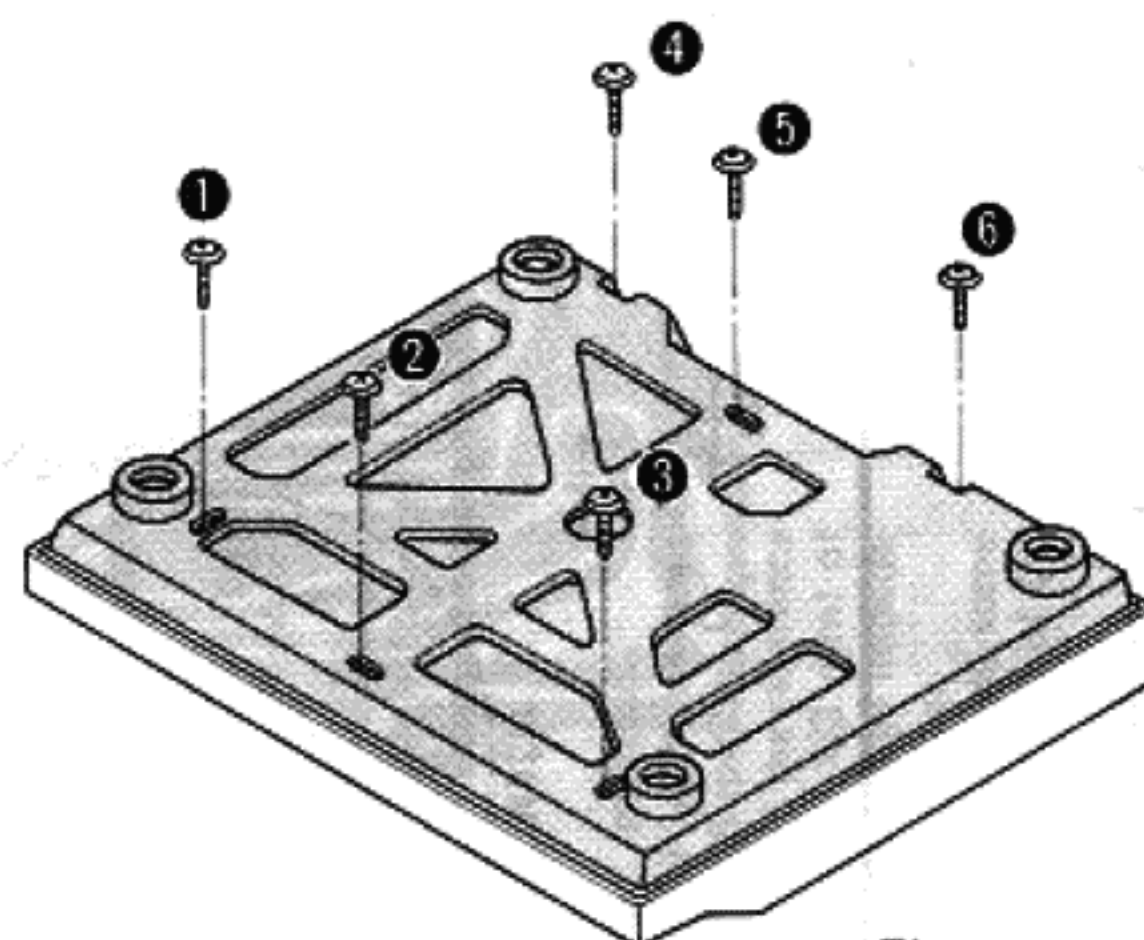

Fig. 1
4. Remove the 6 setscrews (Fig.1 : ①~⑥) on the bottom board.